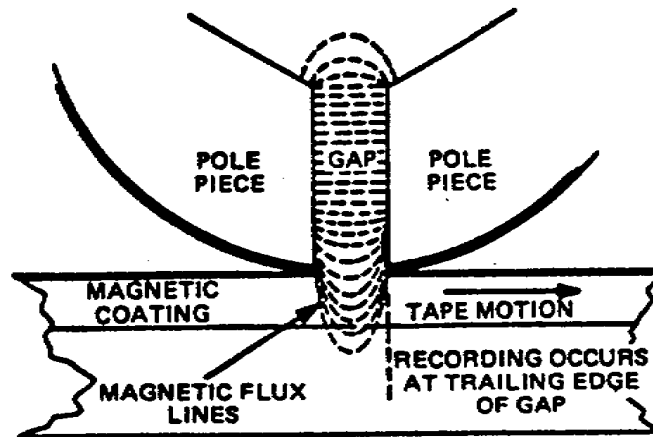
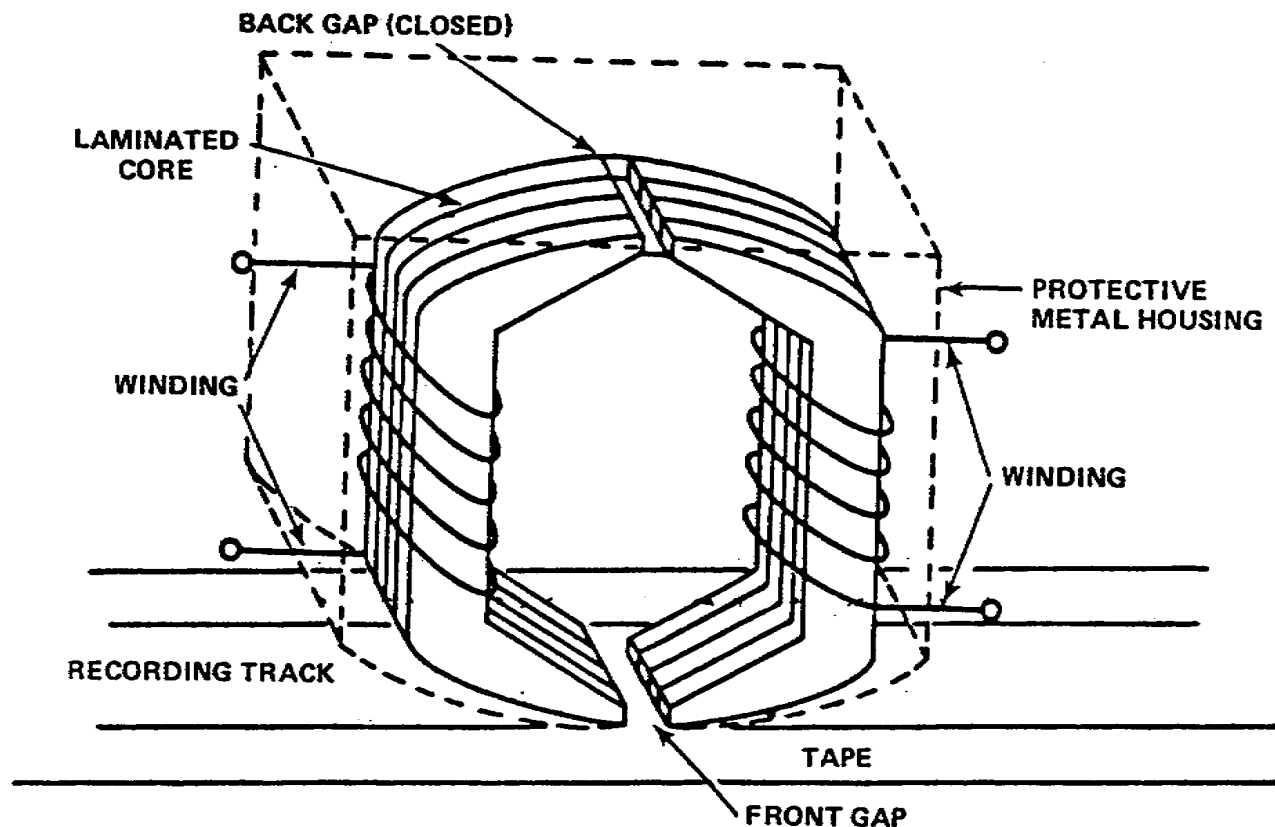

Figure 1-11. Flux lines in a recording gap
Figure 1-12. Laminated core tape head
e. If the magnetic tape is passed across the gap (fig 1-11) oxide particles in the tape will be magnetized in a pattern which is a function of the magnitude and polarity of the original signal. Understand that these particles do not physically move, but are simply magnetized by the flux at the head gap so that each individual particle contributes to an overall magnetic pattern.
3. Although one tape head can be used for three purposes of erasing, recording and reproducing, there are some differences in construction of the heads. The basic construction of the heads (fig 1-11) is the same -- that is, the head consists of a core of permeable material which is wound with a coil of wire. The core material is usually of a laminated construction (as shown in (fig 1-12) rather than nonlaminated. The nonlaminated heads are cheaper to contract, but they usually produce poorer results. The laminations, by reducing magnetic losses due to eddy currents, produce a better response to higher frequencies.